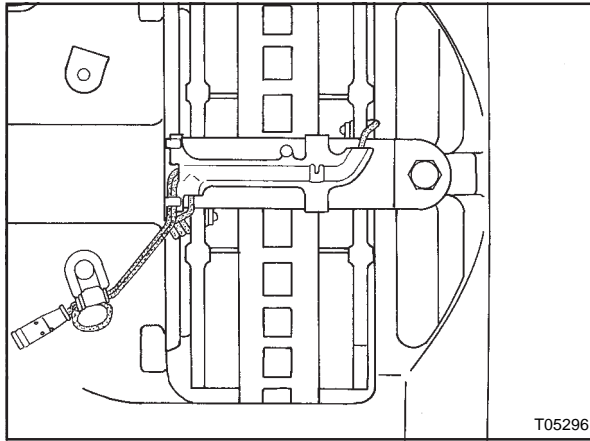

Figure 25 : Pad wear indicator cable installation (early type)
9. Route the electrical pad wear indicator cables through the cable holder as indicated in Figures 25 and 26. Clamp the cable holder on the brake pad retaining plate. Plug in the connector.